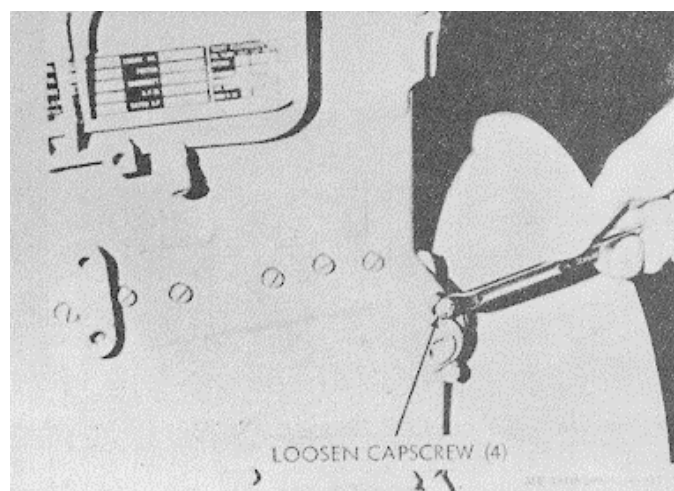

Figure 3-116. Oil transfer connection, removal and installation.
- (1) Remove capscrews, lockwashers and flat washers from oil transfer connection (fig. 3-116).
- (2) Remove connection from block and discard gaskets.